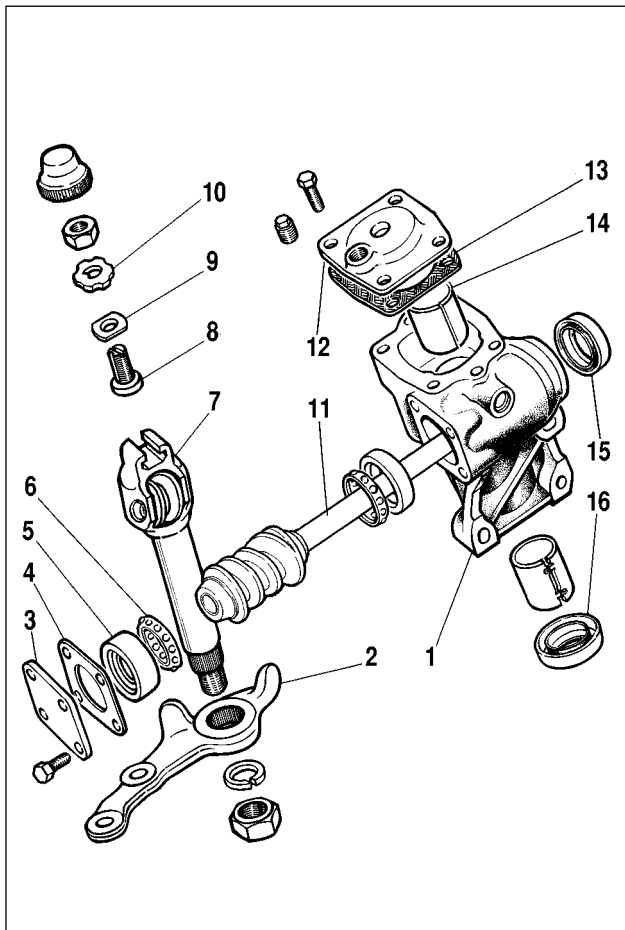

Fig. 5-5. Steering mechanism, exploded view:
Undo the pitman arm fastening nut 2 (fig. 5-5), take off the spring washer, and using puller A.47043 remove the arm (fig. 5-
6). Undo the fastening bolt, take off cover 12 (see fig. 5-5) of the steering box together with cap, adjusting screw 8, adjusting plate 9, lock washer 10 and jam nut. Take out from the steering box 1 the pitman arm shaft 7 in assembly with the roller.
Check the axial clearance between the head of the adjusting screw 8 (see fig. 5-5) and the groove in the pitman arm shaft 7. The gap should not exceed 0.05 mm. If more, replace the adjusting plate 9 with a plate of greater thickness.